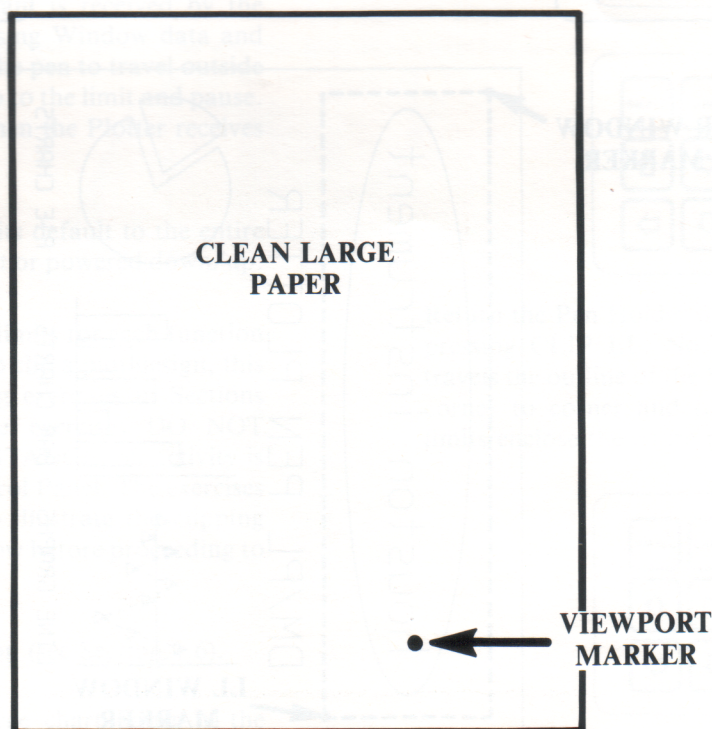

FIGURE 2-7
5. In this step, you will reproduce the design that was clipped in step 3. **DO NOT PRESS LARGE OR SMALL (RESET)** until after the Plotter has drawn the clip design or the new Window limits will default to full page. Use the **MANUAL MOVEMENT KEYS** to drive the paper to load position. (Load position is where the edge of the paper is aligned with the front edge of the platen as shown in Figure 1-6.) Remove the paper from the Plotter and replace it with a clean sheet of large paper or use the backside of the used sheet. After changing paper, use the **MANUAL MOVEMENT KEYS** to move the Pen Holder to the position of the Viewport marker illustrated in Figure 2-7. (This is the point where the Plotter will draw the plot design above and to the right of.) After the Pen is positioned, initiate the Self-Test routine by pressing the ↑ and the ↓ buttons simultaneously. (The Plotter will pause before and during the Self-Test plot. As explained in Section 2.6.1, pen pause is normal when clipping plot designs.) The only design the Plotter will draw is the clipped logo from the Self-Test plot.